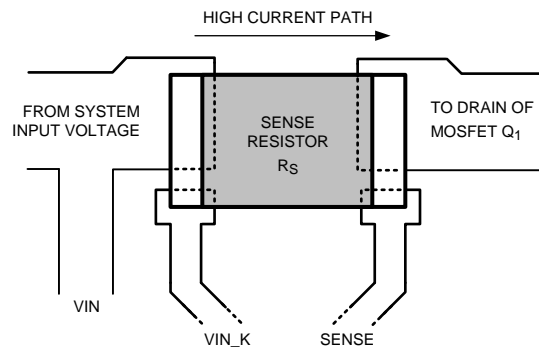

Figure 50. Sense Resistor Connections
5. The sense resistor (R_{SNS}) should be placed close to the LM5066. A trace should connect the VIN pad and Q_1 pad of the sense resistor to VIN_K and SENSE pins, respectively. Connect R_{SNS} using the Kelvin techniques as shown in Figure 50.